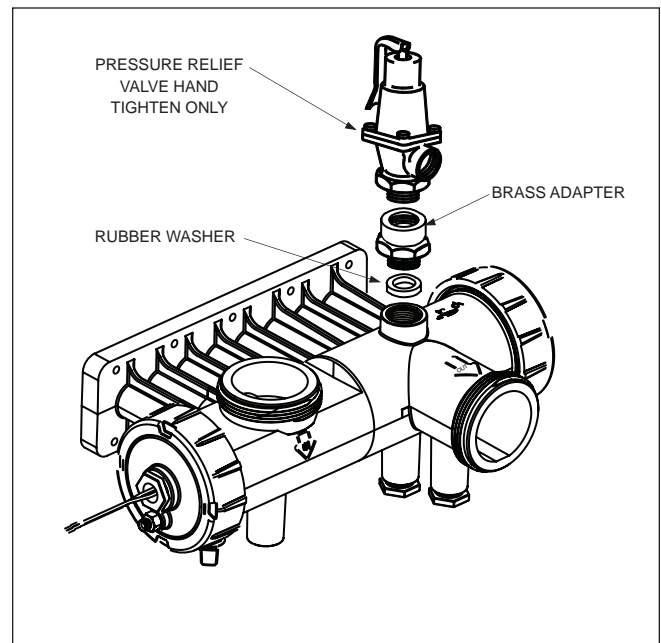

Figure 17. Pressure Relief Valve Installation
6. Install the rubber washer at the bottom of the hole (see Figure 17).